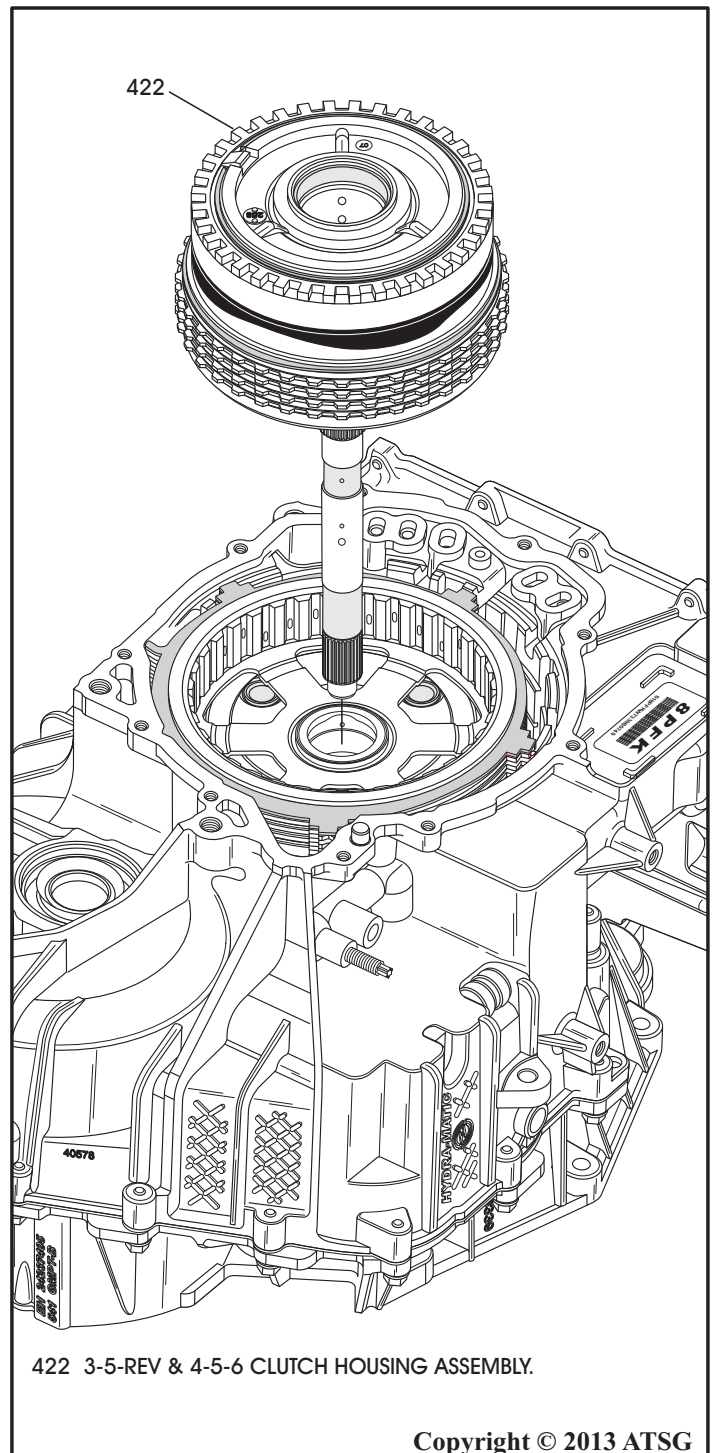

Figure 207
42. Install the completed 3-5-Rev & 4-5-6 clutch housing, as shown in Figure 207, by rotating back and forth to engage input sun gear with the input shaft and the 3-5-Rev clutches into the 2-6 clutch hub and ensure it is fully seated.